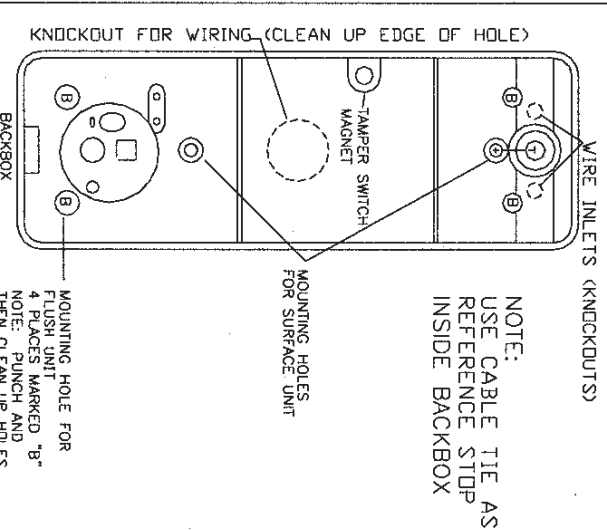

FIG. 7
- 6) Confirm tamper magnet is in place. As you look into back box, magnet on left side (see page 5 Fig. 7).